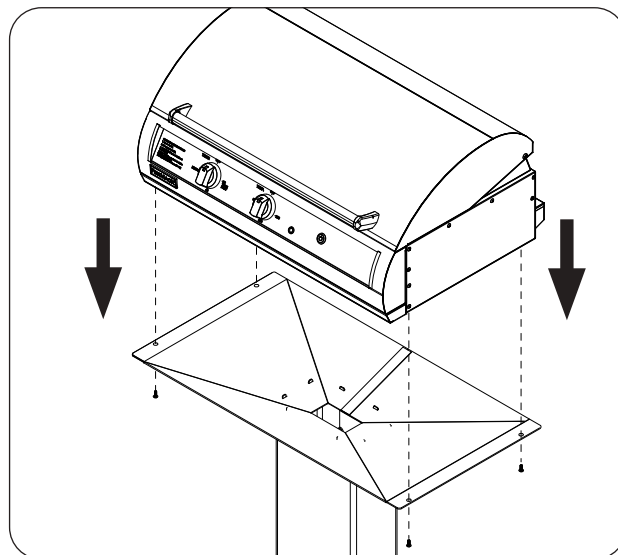

Fig. 28-1 Fasten grill to post base assembly
2. Carefully place and align the electric grill onto the top of the post assembly. Fasten the electric grill to the post base assembly using the 4 included Phillips-head screws. See Fig. 28-1.